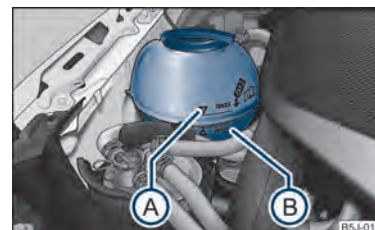

Fig. 130 Engine compartment: Coolant expansion bottle
- Check the level of coolant in the coolant expansion bottle ⇒ fig. 130. The coolant level when the engine is cold must lie between the "MIN" (B) and "MAX" (A) markings. The level may also rise slightly above the "MAX" marking when the engine is warm.
- Place a cloth over the cap of the coolant expansion reservoir → fig. 130 and unscrew the cap **carefully** by turning it to the left → .